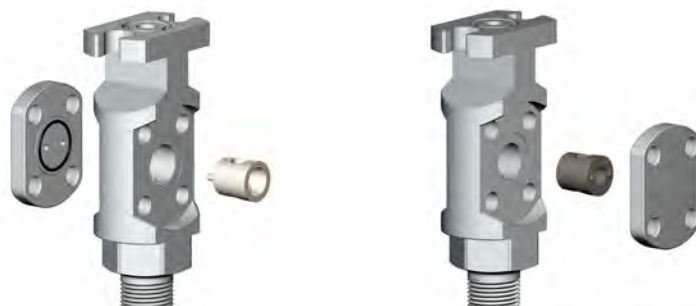

FIGURE 1
7. Install an O-ring on flange plug. (See Figure 1)